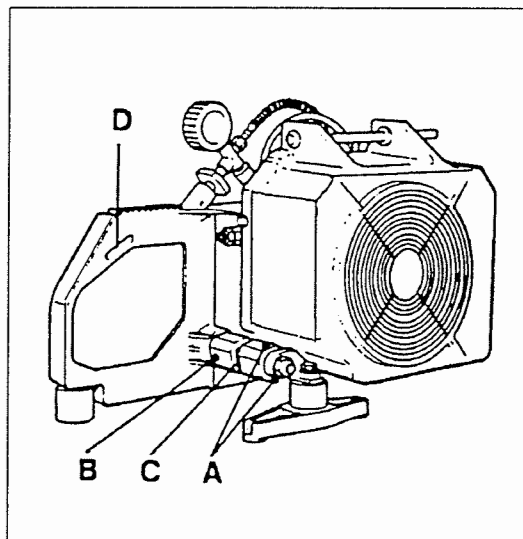
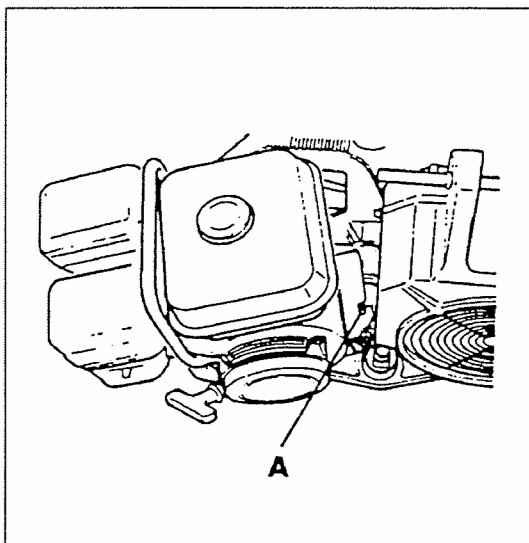

Fig. 20 Hinged motor plate
Fig. 21 Frame opening
The provided drive motors are equipped with a hinged motor plate (A, Fig. 21) and a V-belt pulley. They are mounted on the torsion bar axle (C, Fig. 20).
- First insert motor with its V-belt pulley into frame opening (Fig. 21) and slip hinged motor plate onto torsion bar axle until pins -A engage into slots in motor plate A, Fig. 21).
Removal of motor is performed in reverse order. Petrol engines are fastened in addition by a handle mounted on the frame of the compressor unit (D, Fig. 20). Tighten the handle regularly.